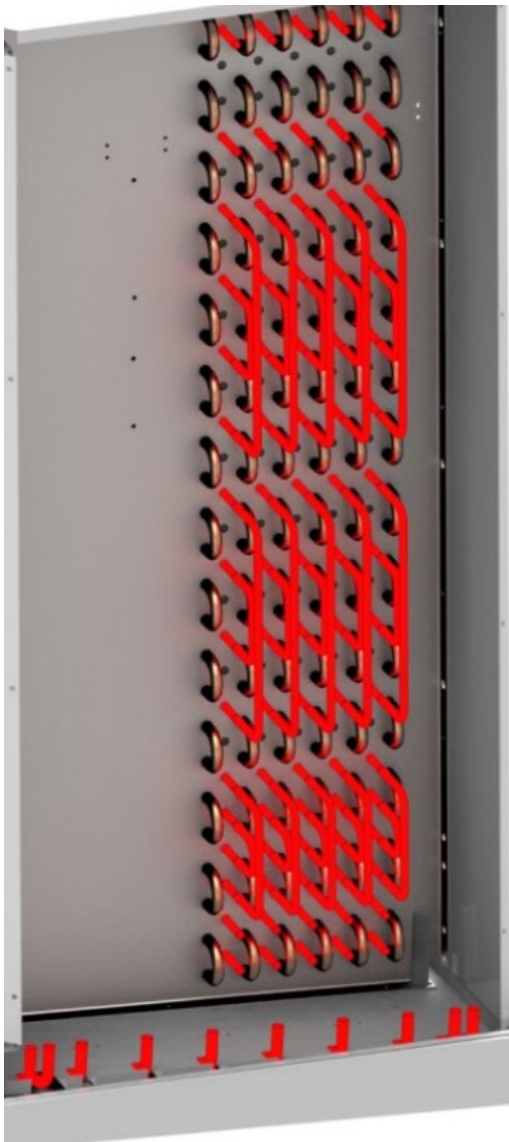

Figure 4: defrosting tubes for glycol (**red marking**)
- additional tubing in the heat exchanger for glycol between the refrigerant tubes (see **red marking** in Figure 4)